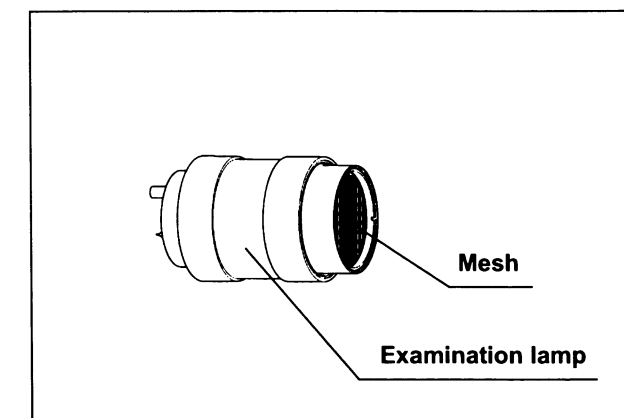

Figure 5.2
- Some examination lamps are provided with a mesh on the glass surface side (see Figure 5.2). This mesh is installed to protect the end surface of the endoscope's light guide from thermal damage and should not be removed.